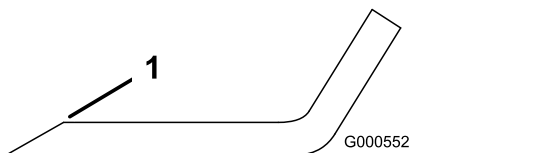

Figure 112
1. Use a file to sharpen the cutting edge at both ends of the blade (Figure 112).
**Note:** If the blade is not balanced, file some metal off the end of the sail area only (Figure 112).